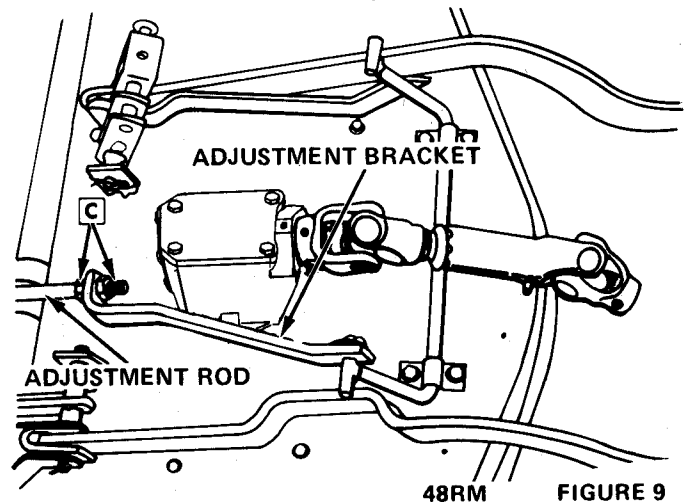

FIGURE 9
3. Place cutting height control lever, Figure 9, in the highest cutting position.
closer to the floor than outer blade tips A. Loosen adjusting nuts C on adjusting brackets, Figure 9, and move the nuts forward or back until center blade tip is 1/8" closer to the floor than the outer blade tips. Retighten adjusting nuts C.
The cutting height is adjustable to any of five positions by using the adjusting lever shown in Figure 9. Raise the lever to increase cutting height. Lower lever to decrease cutting height.
48 RM FIGURE 9 REPEATED